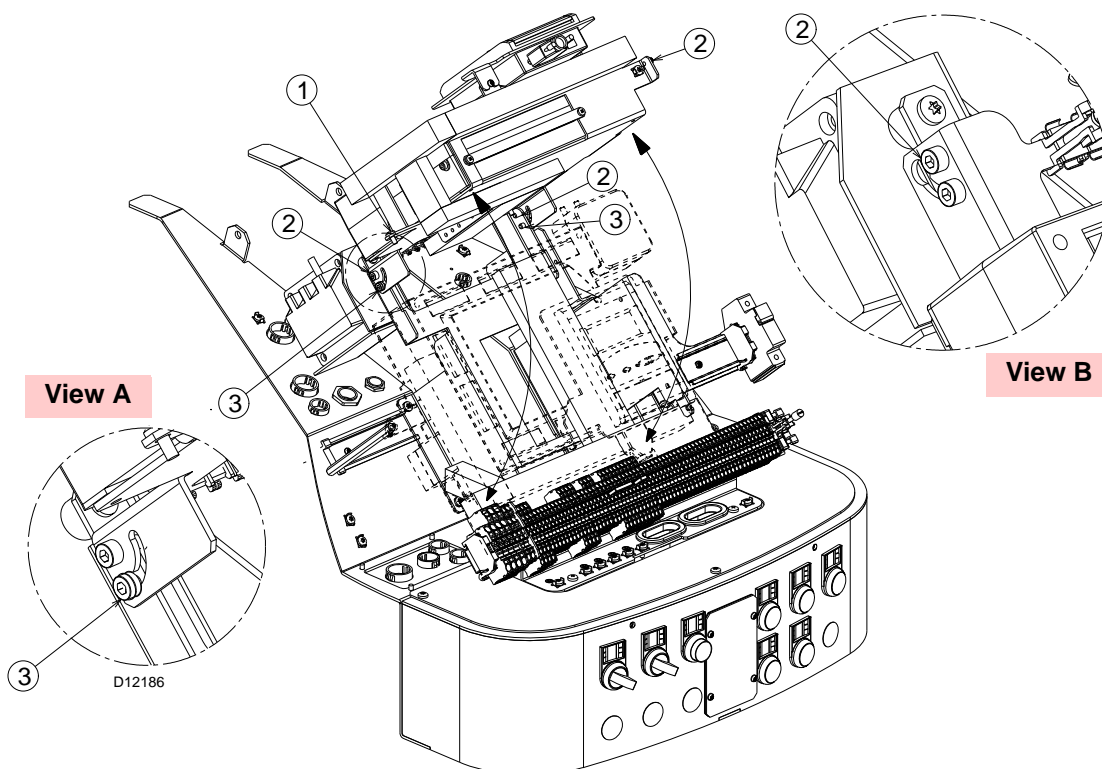

Fig. 40
- unscrew completely the screw 1)(Fig. 40);
The screws 3) move inside the slide until reaching the correct position indicated in "View A" (Fig. 40).
- At the end of maintenance loosen the screws 3), and lower the control box, see "View B" (Fig. 40);